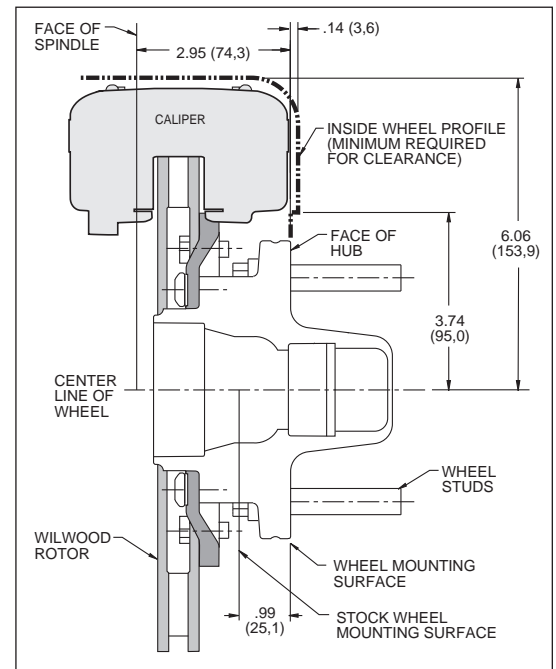
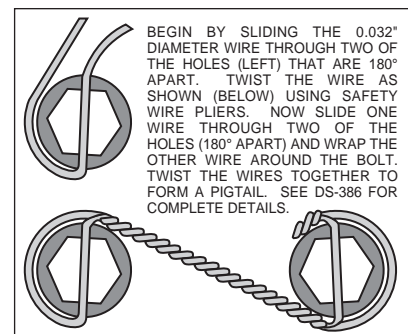
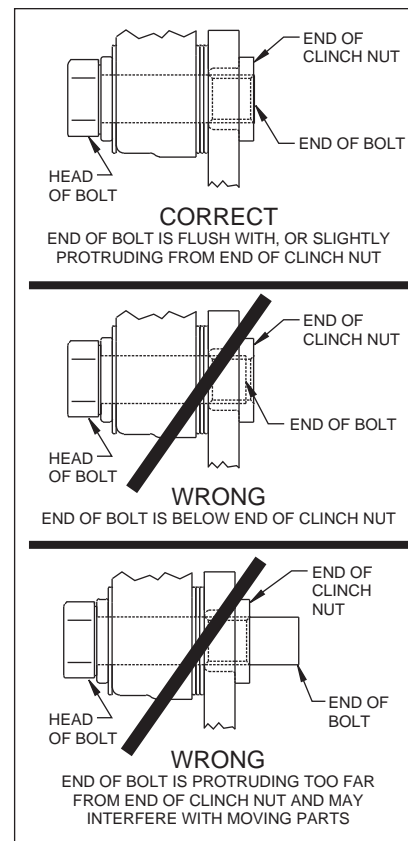

Figure 1. Wheel Clearance Diagram
Figure 4. Safety Wire Diagram
Figure 5.
- Verify wheel clearance, see figure 1.
•Install bolts (2) through caliper mounting bracket (1) into steering arm, finger tighten only. After you are positive of the bracket (1) alignment, remove the mounting bolts (2) one at a time and Apply red *Loctite*® 271 to bolt threads, then reinstall. Torque bolts (2) to 30 ft-lb.
**NOTE:** Be sure the heads of the bracket (1) insert nuts are facing outward toward the wheel.
•Install wheel studs (3) into the hub (4). Torque to 77 ft-lb. **NOTE:** There are two (2) five lug patterns in the hub (5 x 4.50 and 5 x 4.75). Make sure of the correct hole pattern for the correct wheel application before installing studs into hub.
•Pack the large inner bearing cone (5) with high temperature disc brake bearing grease (available from your local auto parts store) and install into the backside of the hub (4). Install the grease seal (6) by pressing into the backside of the hub (4).
•Attach rotor adapter plate (7) to rotor (8) using bolts (9). Torque bolts (9) to 180 in-lb. Safety wire bolts (9) using standard 0.032 inch diameter stainless steel safety wire as shown in Figure 4. Please refer to Wilwood's data sheet DS-386 (available at [www.wilwood.com/Pdf/DataSheets/ds386.pdf](http://www.wilwood.com/Pdf/DataSheets/ds386.pdf)) for complete safety wire installation instructions.
**NOTE:** Dished side of adapter plate (7) should face hub (4). The machined tab side of the iron rotor (8) should face the adapter plate (7).
•Mount the adapter/rotor assembly (7/8) to the hub (4) using bolts (10), as shown in Figure 1. Using an alternating sequence, apply red *Loctite*® 271 to the threads, and torque to 55 ft-lb. Safety wire bolts as shown in Figure 4.
•Pack the small outer bearing cone (11) with high temperature disc brake bearing grease and install into front of hub (4). Slide the hub/rotor assembly (4 and 8) with outer bearing cone (11) onto the spindle. Secure using stock spindle washer, adjusting nut and nut locking device. Adjust bearings per Original Equipment Manufacturer (OEM) specifications.
•Install the o-ring (13) and the dust cap (14) into the hub (4). Friction created by the o-ring (13) on the dust cap (14) keeps it from unscrewing. The O.D. of the existing spindle washer may be larger than the I.D. of the dust cap (14) which may allow the washer to contact the dust cap (14). Use the spindle washer (12) supplied with the kit instead of the stock washer..
•**NOTE:** Please reference the caution statement at the beginning of the assembly instructions. Mount the caliper (15) onto the caliper bracket (1) using washers (16) and bolts (17), finger tighten only. View the rotor (8) through the top opening of the caliper (15). The rotor (8) should be aligned in the center of the caliper (15). If not, adjust the caliper (15) by using 0.032 inch thick shims (18) placed between the caliper mounting bracket (1) and the caliper (15). Finger tighten and recheck alignment. Use as many shim washers (18) as necessary to achieve the correct alignment. **NOTE:** The end of the bolt must be flush with or slightly protruding from the head of the clinch nut. See Figure 5. Place spare shims (18) between washer and caliper mounting ear to achieve the proper mounting fastener configuration. Always use the same amount of shims on both the top and bottom caliper mounting bolts (17). Apply red *Loctite*® 271 to bolt threads (17) and torque to 40 ft-lb. Safety wire caliper bolts (17).
•Install the disc brake pads (19) and secure using cotter pin (20).